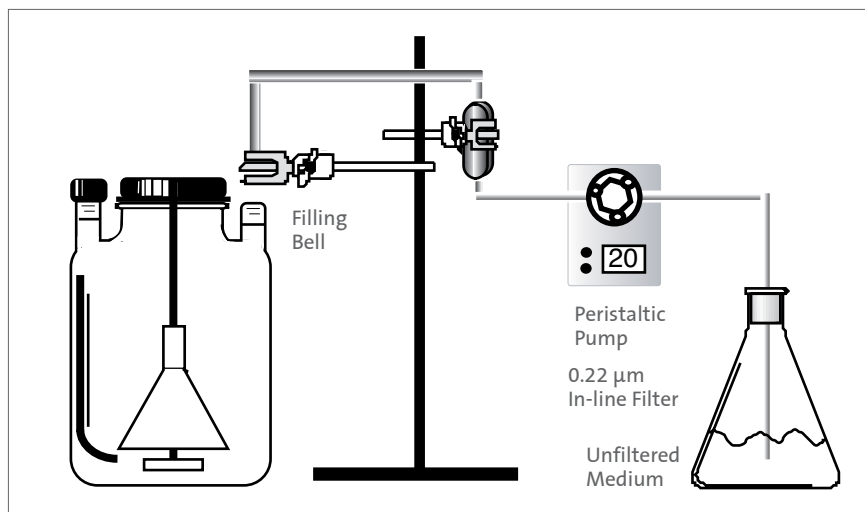

Figure 17. Large vessel being filled with the use of a filling bell and ring stand
3. "In-line" addition is an alternative. Unsterilized medium can be added by filtering "in-line," using a length of sterilized tubing connected to a 0.2 μm filter attached between the unsterilized medium source and the vessel. Either gravity-feed or a peristaltic pump can be used to move the fluid. By using a filling bell supported by a ring stand (Figure 17), several vessels can be rapidly filled.